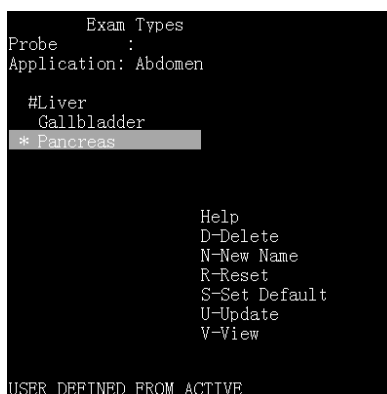

Fig. 6-1 Interface of Exam Type Menu
#### 6.2.3.4.1 Composition of Exam Type Menu (Fig. 6-1)
- d) Help area: This menu hotkeys and their corresponding operations are listed in the Help area. See Fig. 6-1.